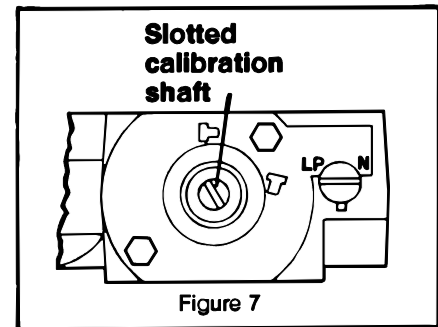

Figure 7
- A. Insert screwdriver into hole in center of control knob and engage slotted calibration shaft in center of control stem (Fig. 7.)